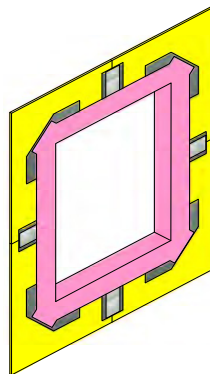

Figure 21
2. Apply MasterSeal AWB 950 P to the head, sill and jambs, including the embedded MasterSeal AWB 975 FIBs, covering all areas that will subsequently bond to MasterSeal AWB 975 FIB. (See Figure 21).